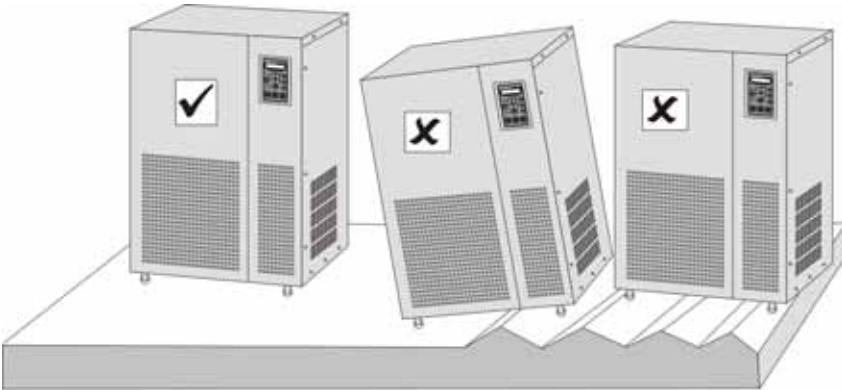

Figure 3
1. Do not place the UPS on slope or scraggy land. (Figure 3)